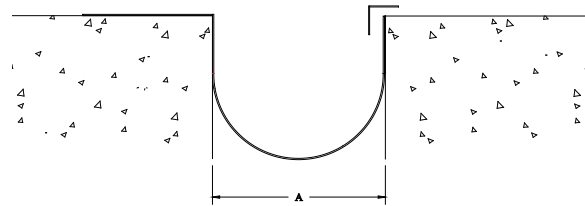

Figure 6
STEP 6. Select the single-sided microsealant tape. Place a continuous strip of the tape over the edge of the water barrier and onto the surface of the assembly, see Figure 6.